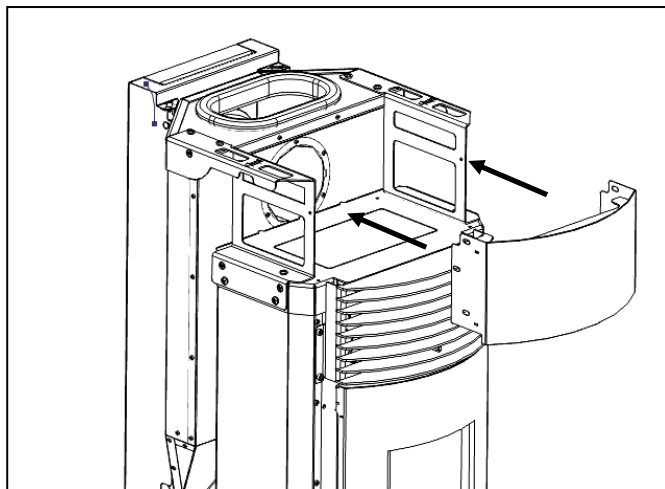

Figure 36 - Fitting the front of the frame
b) Place the upper front as shown in Figure 36, positioning the tabs of the front piece on the inner face of the frame.